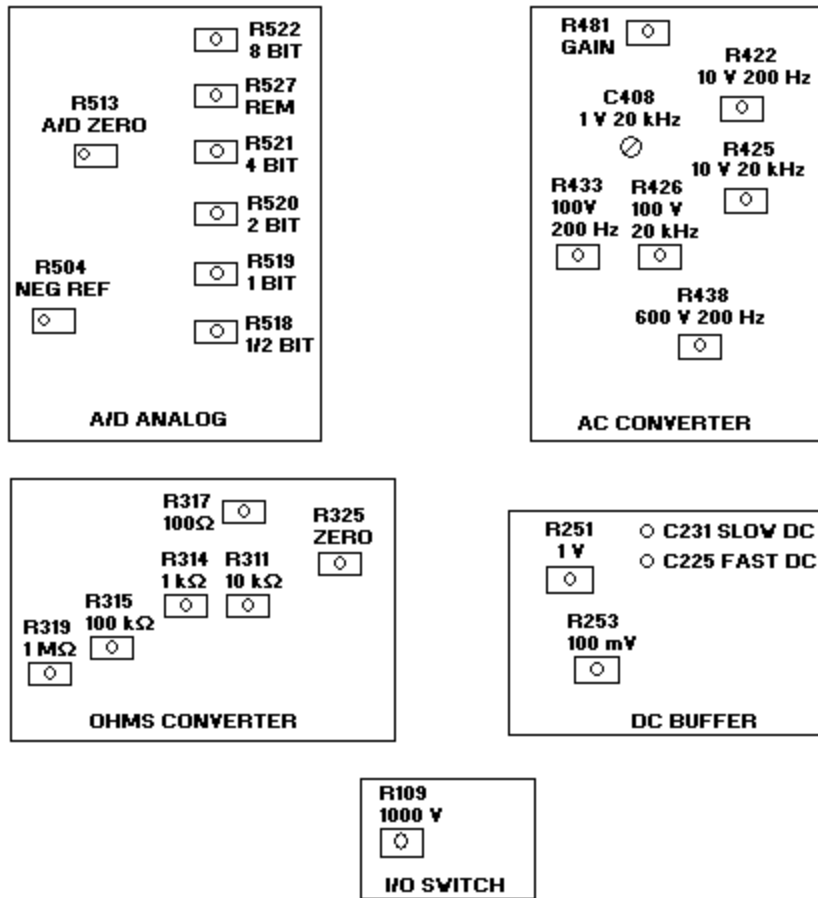
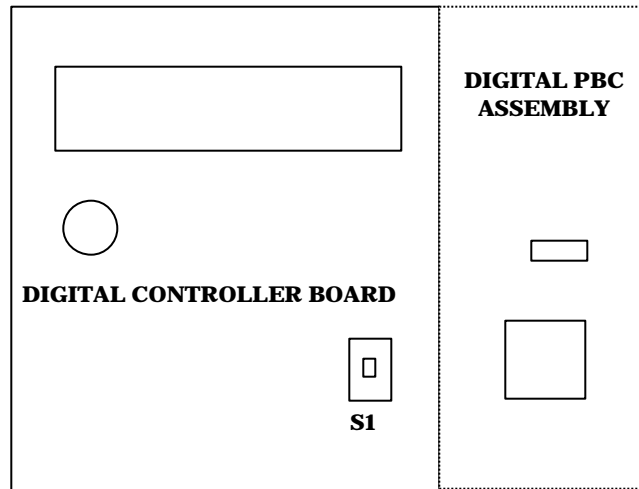

Figure 1. Adjustment locations.
Figure 2. Cal digit switch - S1 location.
(1) Adjust DC BUFFER C231 SLOW DC (fig. 1) for TI indication between -.001 and +.001 mVDC (R).
(2) Press **READING RATE D** or **Ñ** pushbutton to select **10/SEC** rate.
(3) Adjust DC BUFFER C225 FAST DC (fig. 1) for TI indication of .000 mVDC with the + and - signs alternating (R).
- (4) Press **READING RATE** D or \tilde{N} pushbutton to select **10/SEC** rate.
- (5) Set calibrator for a 190 mV output. Adjust DC BUFFER R253 100 mV (fig. 1) for TI indication between 189.998 and 190.002 mVDC (R).
- (6) Press S1 (fig. 2) to select cal digit mode.
- (7) Set calibrator for a 1.9 V output. Adjust DC BUFFER R251 1V (fig. 1) for TI indication between 1.89999 4 and 1.90000 6 VD (R).
- (8) Press S1 (fig. 2) to return to normal mode.
- (9) Press S1 (fig. 2) to select cal digit mode.
- (10) Set calibrator to **STANDBY** and disconnect calibrator from TI.
- (11) Short TI **V/W INPUT HI** and **LO**. Adjust A/D ANALOG R513 A/D ZERO (fig. 1) for TI indication between -.0000 2 and +.0000 2 VD (R).
- (12) Remove short and connect calibrator **OUTPUT HI** and **LO** to TI **V/W INPUT HI** and **LO**.
- (13) Set calibrator for a -8.1 V output. Adjust A/D ANALOG R522 8 BIT (fig. 1) for TI indication between -8.0999 8 and -8.1000 2 VD (R).
- (14) Set calibrator for a +8.1 V output. Adjust A/D ANALOG R504 NEG REF (fig. 1) for TI indication between 8.0999 8 and 8.1000 2 VD (R).
- (15) Set calibrator for a 4.1 V output. Adjust A/D ANALOG R521 4 BIT (fig. 1) for TI indication between 4.0999 8 and 4.1000 2 VD (R).
- (16) Set calibrator for a 2.1 V output. Adjust A/D ANALOG R520 2 BIT (fig. 1) for TI indication between 2.0999 8 and 2.1000 2 VD (R).
- (17) Set calibrator for a 1.1 V output. Adjust A/D ANALOG R519 1 BIT (fig. 1) for TI indication between 1.0999 8 and 1.1000 2 VD (R).
- (18) Set calibrator for a .6 V output. Adjust A/D ANALOG R518 1/2 BIT (fig. 1) for TI indication between .5999 8 and .6000 2 VD (R).
(19) Set calibrator for a .3 V output. Adjust A/D ANALOG R527 REM (fig. 1) for TI indication between .2999 8 and .3000 2 VD (R).
(20) Press S1 (fig 2) to return to normal mode.
(21) Press S1 (fig. 2) to select cal digit mode.
(22) Set calibrator for a 120 V output. Adjust I/O SWITCH R109 1000 V (fig. 1) for TI indication between 119.999 4 and 120.000 6 VD (R).
(23) Press S1 (fig. 2) to return to normal mode.
- (1) Press **READING RATE** D or \tilde{N} pushbutton to select **2/SEC** rate.
- (2) Press S1 (fig. 2) to select cal digit mode.
- (3) Adjust OHMS CONVERTER R325 ZERO (fig. 1) for TI indication of -.0000 0 ± 20 cal digits (R).
- (4) Press S1 (fig. 2) to return to normal mode.
- (5) Press S1 (fig. 2) to select cal digit mode.
- (6) Adjust OHMS CONVERTER R317 100 Ω (fig. 1) for TI indication equal to calibrator output display rounded to TI digits of resolution ± 15 cal digits (R).
- (7) Press S1 (fig. 2) to return to normal mode.